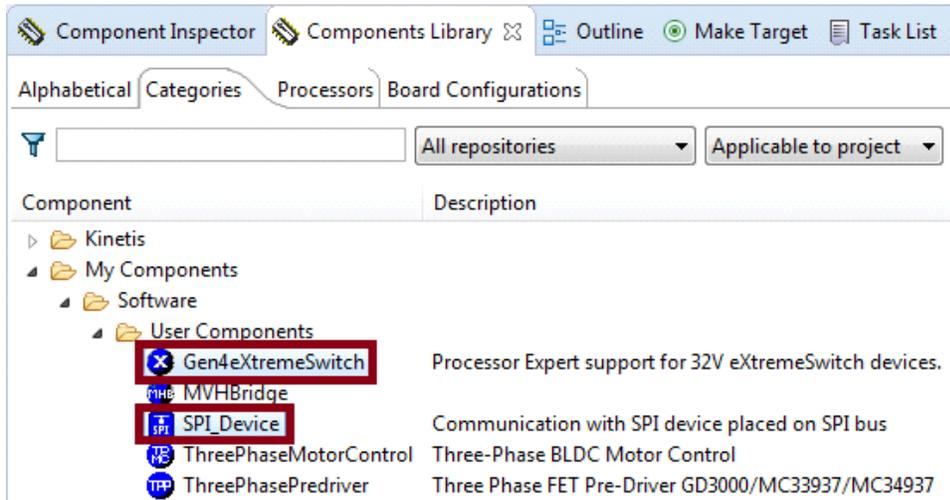

Figure 8. Gen4eXtremeSwitch component location after importing to Kinetis Design Studio
4. If the import is successful, the Gen4eXtremeSwitch component appears in **Components Library -> Software -> User Component** (see Figure 8). The component is now ready to use.